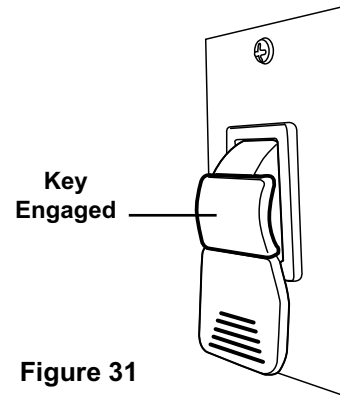

Figure 31
3. **Before turning on the power**, make sure that nothing is obstructing the Saw Blade (36).
5. To **turn on** the Bandsaw, insert the Key, then pull the Switch up, see Figure 31.